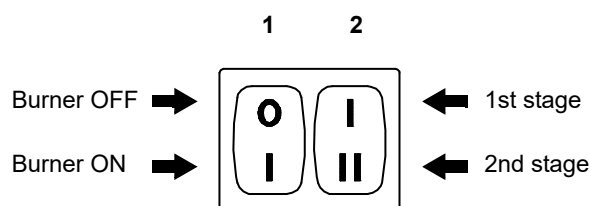
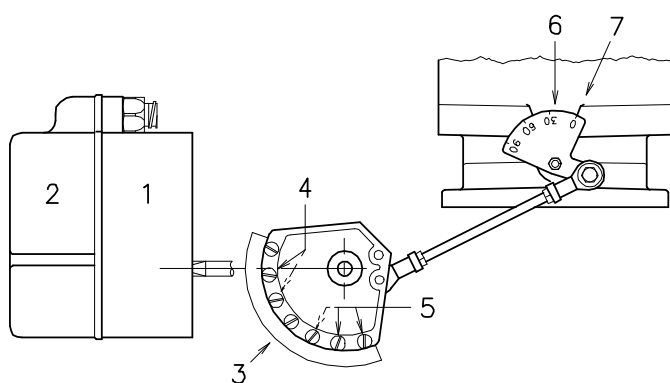

Fig. 25
Fig. 26
- switch 1)(Fig. 25) on “**BURNER ON**”;
- switch 2)(Fig. 25) on “**1ST STAGE**”.
In the above description, we left the burner running, operating in the 1st stage. Turn switch 2)(Fig. 25 on page 24) to the 2nd stage position: The servomotor will open the air damper and, at the same time, also the gas butterfly valve opens at 90.
Progressively adjust the end profile of cam 3)(Fig. 26) by turning the screws 5).
Turn the switch 2)(Fig. 25 on page 24) to the 1st stage position: the servomotor 1)(Fig. 26) will close the air damper and, at the same time, also the gas butterfly valve closes to 15°, i.e. to the factory setting.
- If it is necessary to increase it, pass to 2nd stage by activating the switch 2)(Fig. 25 on page 24) and slightly increase the angle of the orange lever with small, regular movements, i.e. bring it from an angle of 15° to 17° - 19°....
Progressively adjust the initial profile of the cam 3)(Fig. 26) by turning the screws 4). It is preferable not to turn the first screw since this is used to set the air damper to its fully closed position.
Switch off the burner using the switch 1)(Fig. 25 on page 24), and turn the intermediate screws of the cam so that the inclination of the cam itself is progressive.